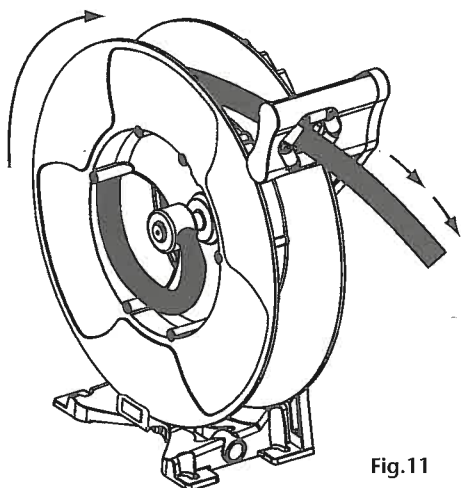

Fig.11
1. Pull the hose out 10 feet (3 metres) and let the hose reel latch (fig. 11).
1. Extraer unos 10 pies (3 metros) de manguera y trincar la manguera (fig. 11).